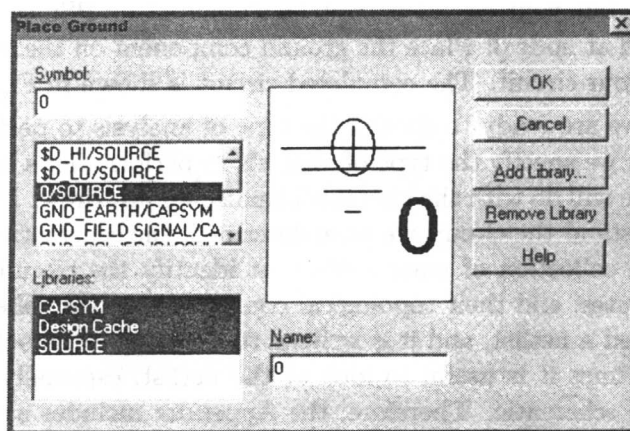

Figure 10: Selecting the ground component.
The last step in drawing the circuit is to add the circuit ground, which must be at the node numbered zero (0). The easiest way to do this is to click on the vertical toolbar button labeled GND, and select the part named 0/Source, as shown in Fig. 10. This is a very important step and easy to